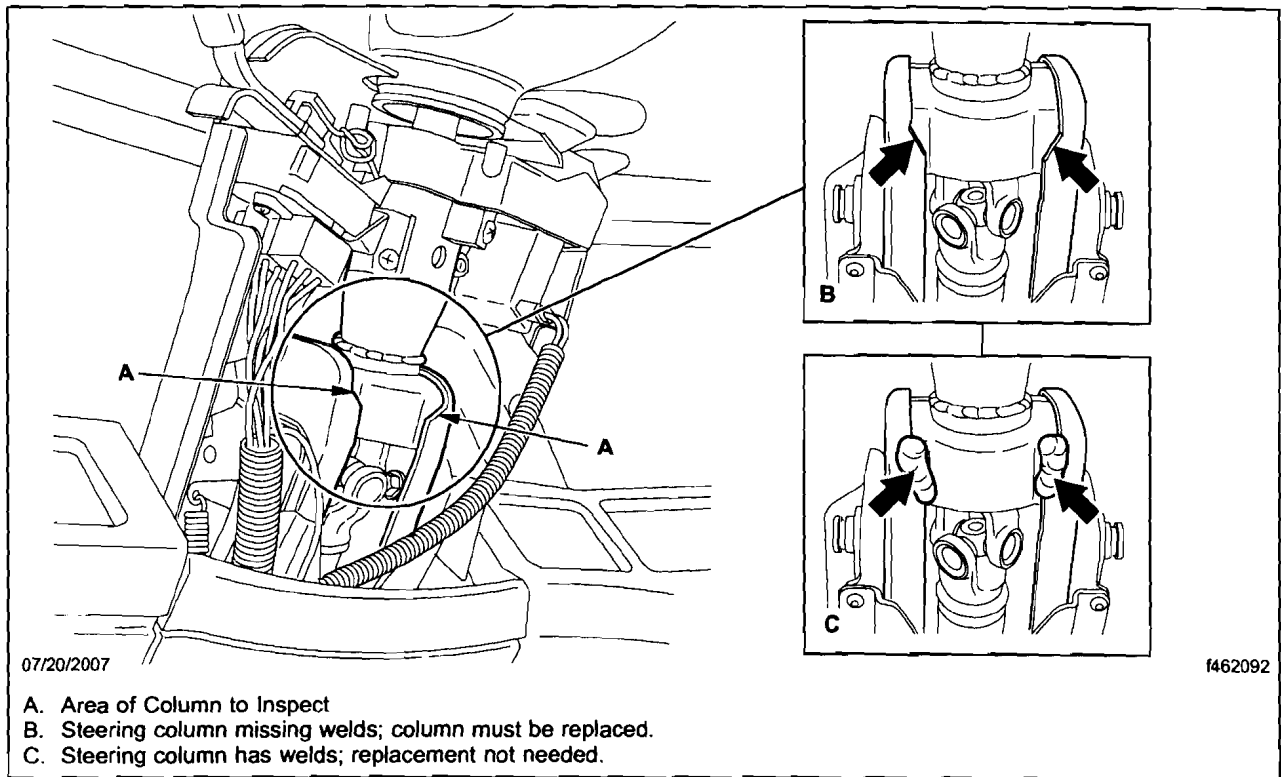

Fig. 1, Inspection of Column for Welds
5. Examine the the column for welds that secure the upper column shaft tube. See **Fig. 1**.